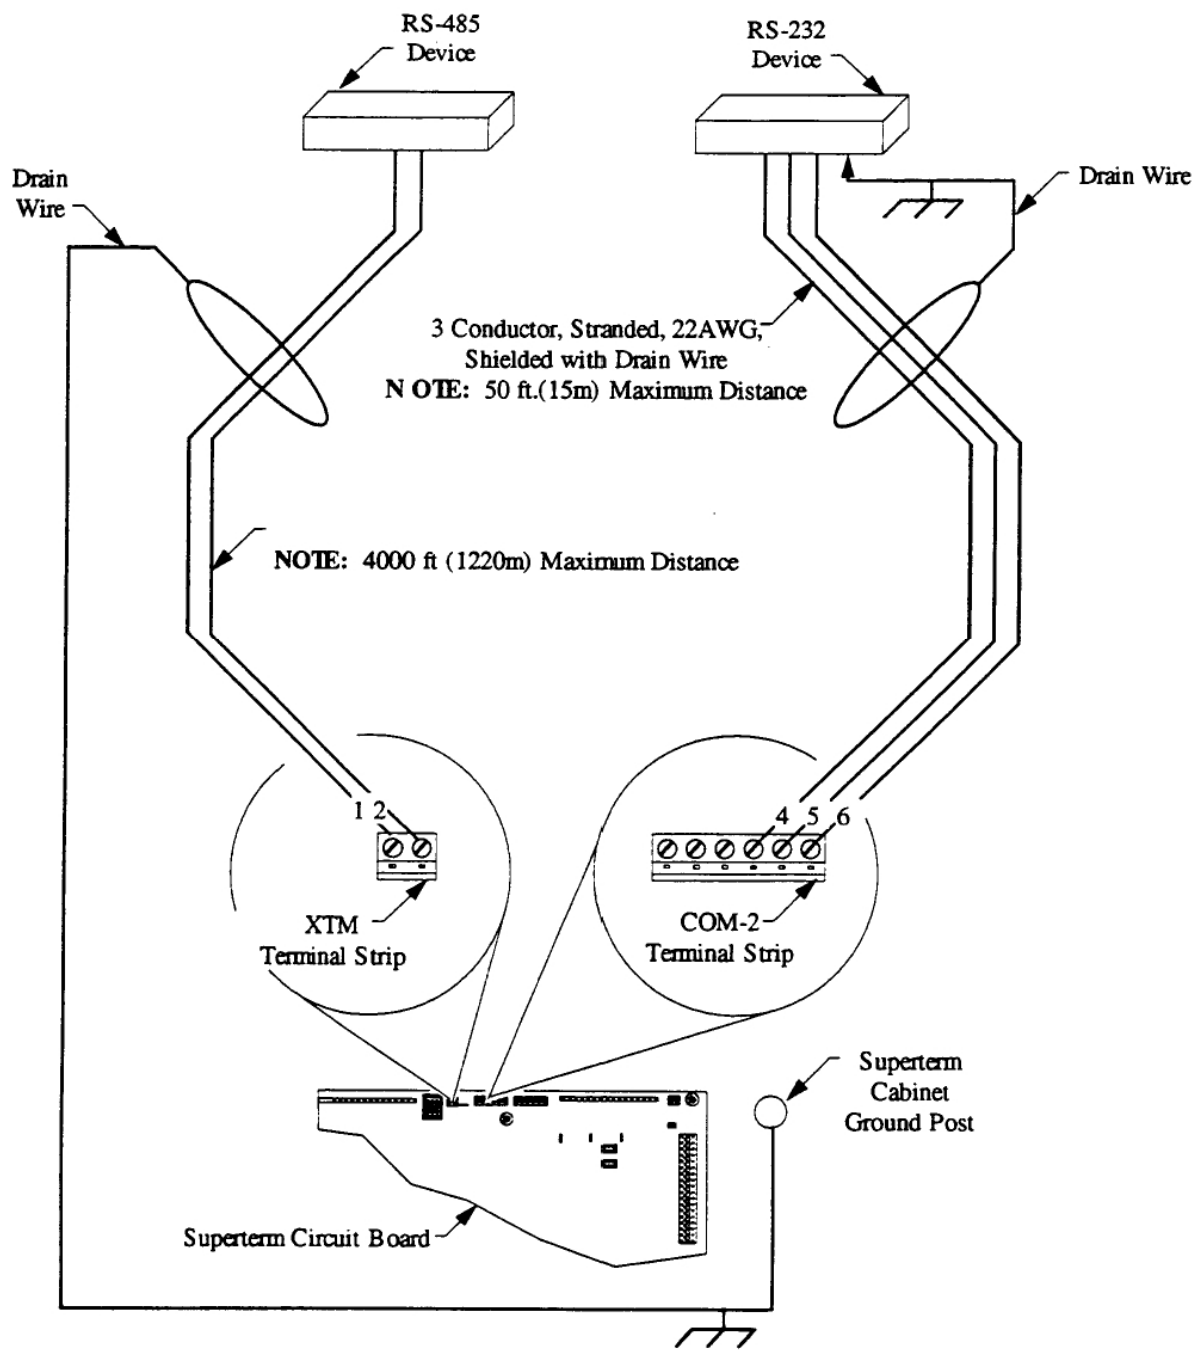

Figure 35 - Connecting Auxiliary RS-232 and RS-485 Devices to the Superterm
An auxiliary RS-232 device connects to the Superterm through the COM2 terminal strip (see Figure 35).
An auxiliary RS-485 device connects to the Superterm through the XTM terminal strip (see Figure 35).
**NOTES:** The drain wire/shield connects to the Superterm cabinet ground post (see Figure 35).